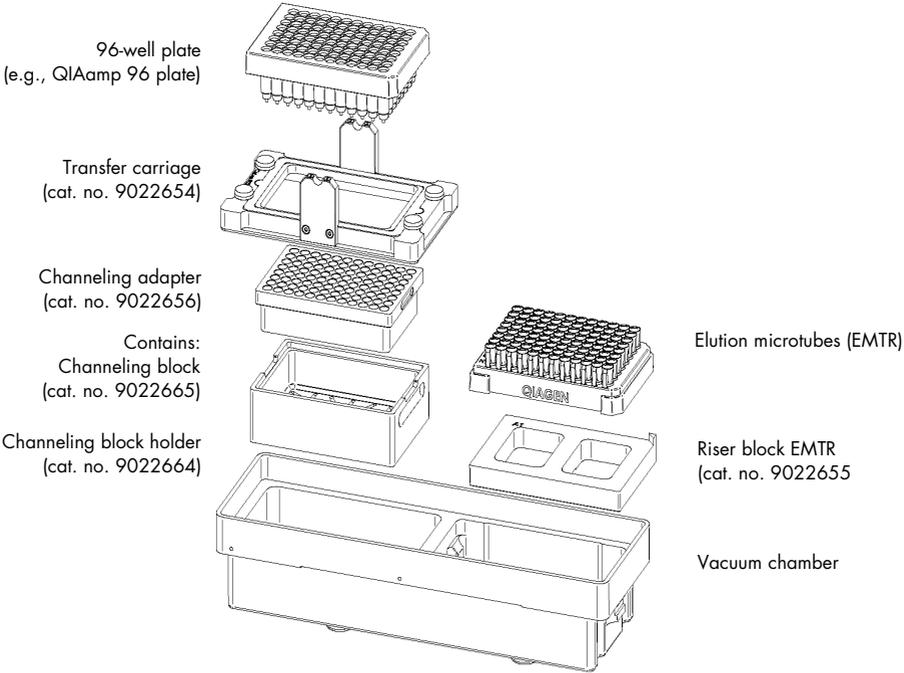

Figure 1. Assembling the vacuum chamber.
Figure 1 illustrates the assembly of the vacuum chamber. For further information, please refer to the *QIAcube HT User Manual*.
15. Prepare the vacuum chamber as shown in Figure 1 on page 16. This assembly is also described in the *QIAcube HT User Manual*.